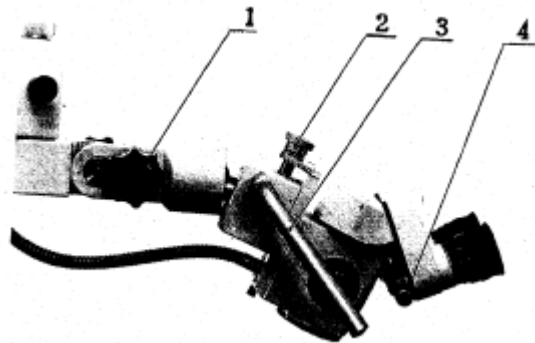

Fig13
(1) There is a spare bulb in the light house of the instrument. If the bulb is burned off during the operation, turn off the power switch and pull out the bulb socket (Fig.8-1). Rotate the bulb socket to 180" degree and insert it again. Turn on the switch. The Fig. 13 operation can be continued.